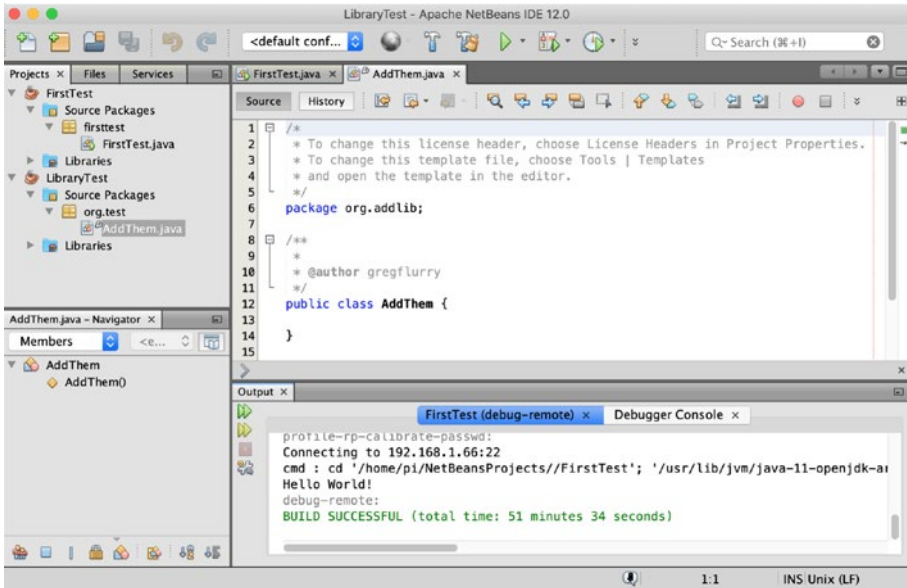

**Figure 5-23.** NetBeans window for a new library class
11. Enter the desired class name in the *New Java Class* dialog, in this example, “AddThem”, and click **Finish**. You’ll see the editor for the AddThem class. The NetBeans window should appear similar to Figure 5-23.